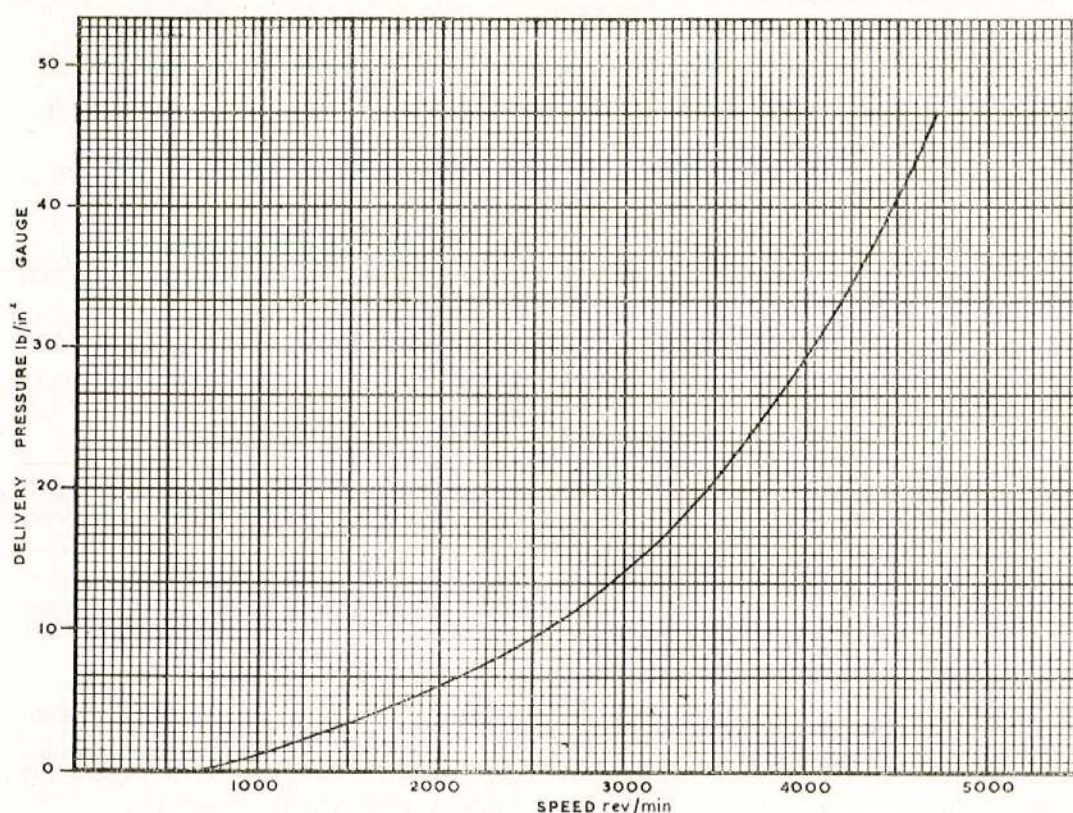

Fig 1. Performance curve for codes BC, BH and 108
90. Run the unit at the speed stated in the appendix and check the starting acceleration flow. If necessary, adjust the shim washer (item 42, fig. 1) between the throttle valve cam follower and plunger. Add shims if the flow is too high and subtract if the flow is too low.
3. The fuel delivery pressure to be applied is shown on the curve in fig. 1.
4. The restrictor (10) in the diagrammatic layout is to be a 10.4 F. No.
16. The governor settings shown in the following table should be obtained. To obtain the settings at 20° and 80° adjust the position of the governor cam by slackening off the nut at the base of the cam spindle and rotating the vernier coupling. To obtain early governing of the unit open the cam angles and vice-versa. It may be necessary to add or reduce the shim washers beneath the plunger stop sleeve to bring the unit back into the curve, fig. 1. At the maximum angle the highest recorded flow (Point K) must occur within the box limits (4100 rev/min, 41 to 42 gal/h) and (4200 rev/min, 41 to 42 gal/h). Record the flow and speed.
18. Increase the speed to 4800 rev/min at which point the flow should be 22 gal/h maximum. Increase the speed until the unit is governing and the burner flow is 36 gal/h. A further increase in speed to decrease the flow to 15 gal/h must not exceed 600 rev/min, Point I. If the flow exceeds the limits for the above checks, add shim washers to the governor plunger to obtain early governing. It may be necessary to add or reduce the shim washers beneath the stop sleeve to bring the unit back into the curve (fig. 1).
3. The fuel delivery pressure to be applied is shown on the curve in fig. 1 of Appx. 1.